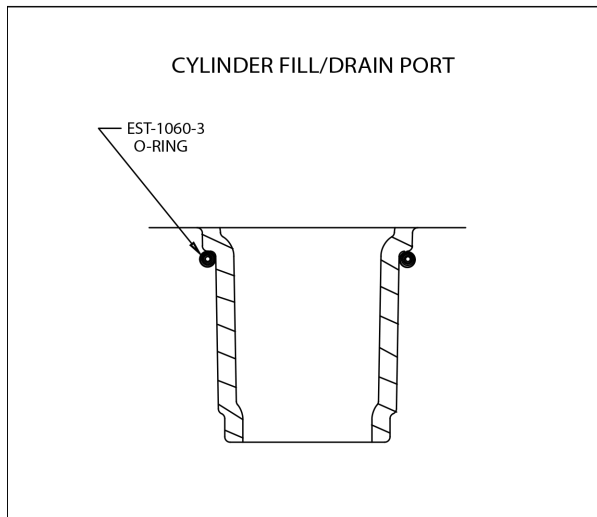

Figure 12A
5. cylinder. Be sure that the o-ring is in place on the cylinder fill/drain port prior to installation. (See Figure 12A.) New o-ring is included with each replacement cylinder.